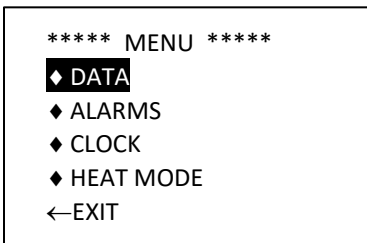

Figure 13: xFridge Menu Display
- a) Access the MENU, as shown in Figure 13, by pressing the MENU/SELECT button in Temperature Display Mode. Use the ▲ and ▼ buttons to toggle between the menu items and press MENU/SELECT again to step to the highlighted option. Highlight "←EXIT" and press MENU/SELECT to return to Temperature Display Mode.